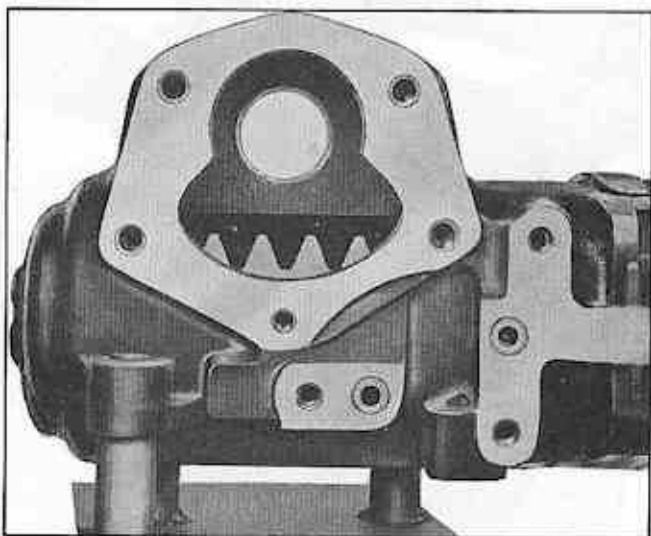

Fig. 84 Centering Rack-Piston
1. Turn worm shaft until center groove of rack-piston is aligned with center of pitman shaft bushing (Fig. 84). Tape serrations of pitman shaft before installing to protect oil seal.